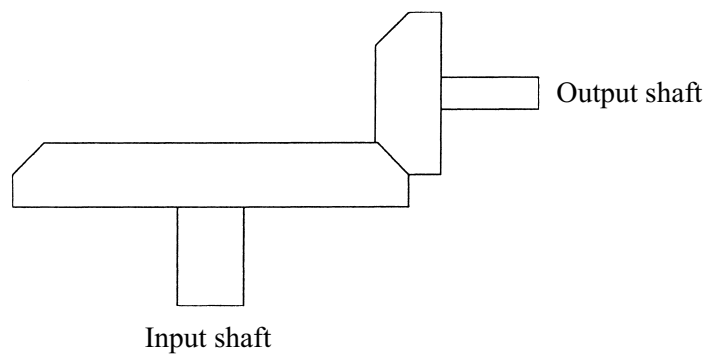

Figure 6
- (ii) Identify the type of gear used in **Figure 6** to turn rotation through 90 degrees.